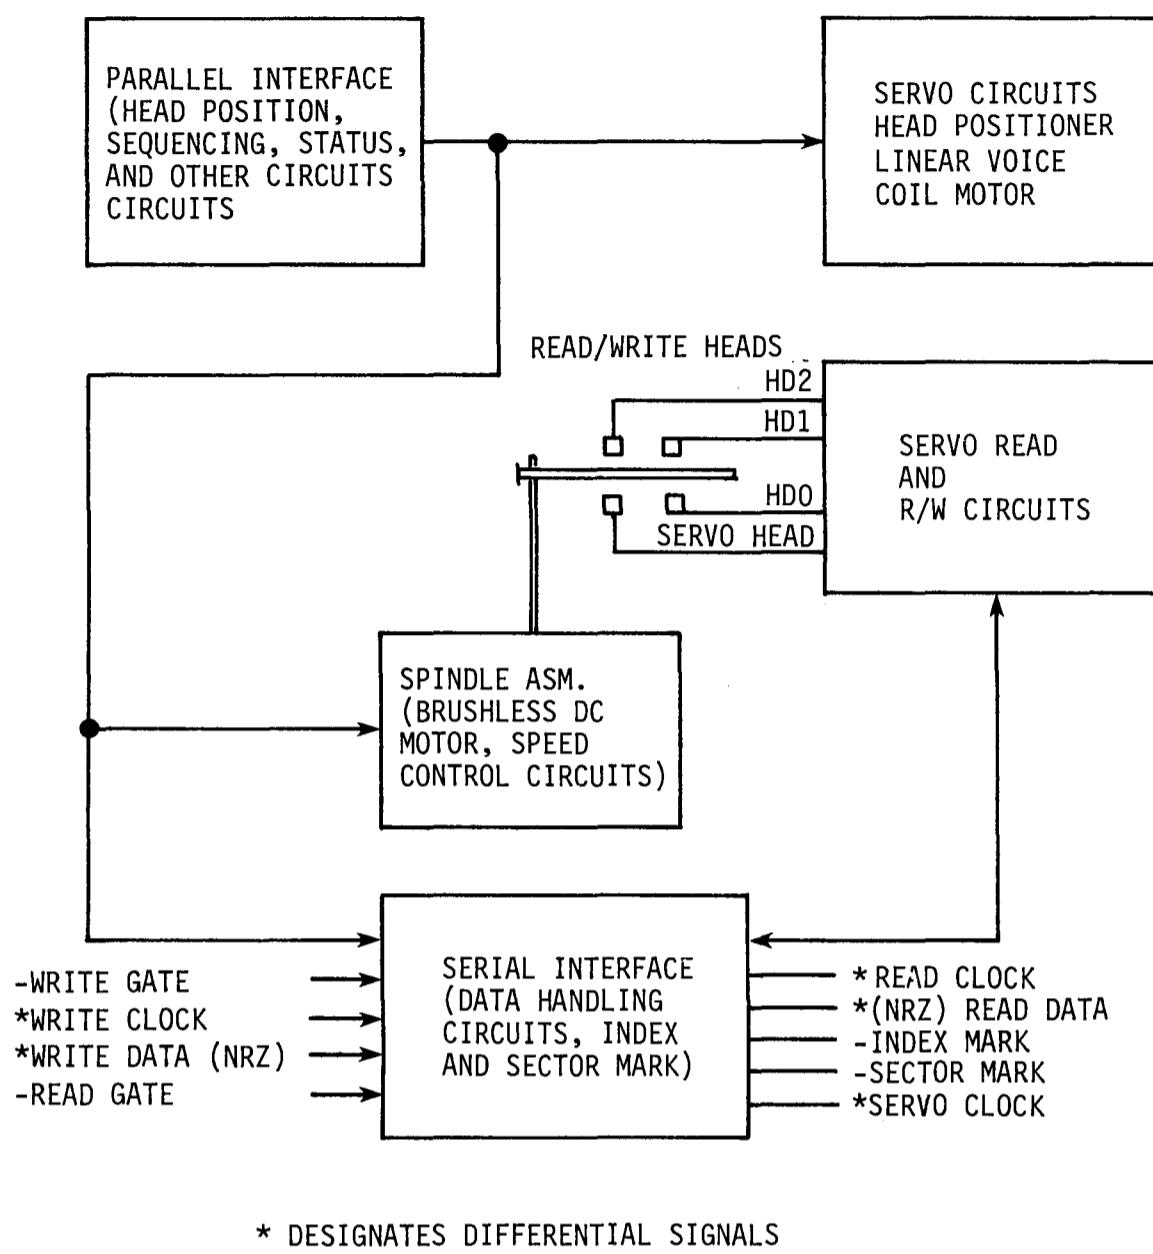

Figure 3-1. Functional Block Diagram
3.2 BLOCK DIAGRAM FUNCTIONAL DESCRIPTION (FIGURE 3-1)